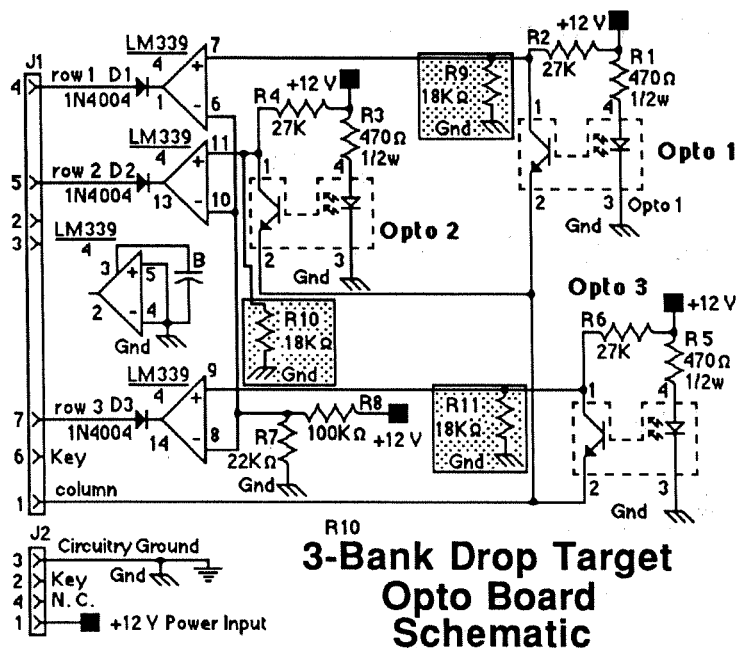

Figure 1. 3-Bank Drop Target Opto Board
2. Check to verify that each of the three 1N4004 diodes (for noise suppression and blocking) on the 3-Bank Opto Board is functioning properly. (See Figure 1.) The cathodes of these diodes connect to the outputs of IC1 (Pins 1, 13, and 14), and the anodes connect to, respectively, Pins 4, 5, and 7 of J1.